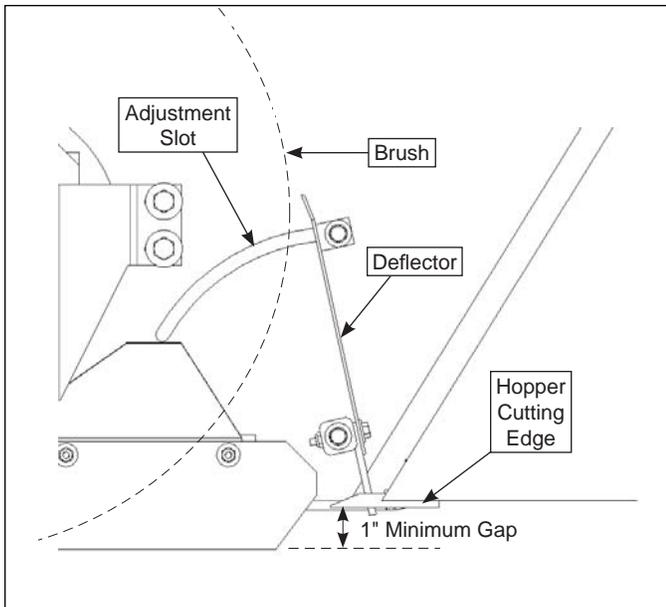

Figure 3
2. If so equipped, lift the curb/gutter broom, attach support chain and lock chain into bracket to hold broom in place. See Figure 3.
**NOTE:** There must be a minimum of a 1" gap between the ground and the hopper cutting edge. See Figure 3.